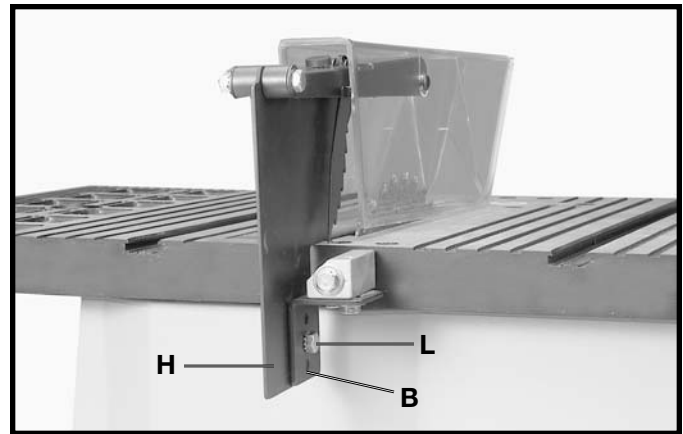

Fig. 11
8. Assemble splitter (H) Fig. 11, to splitter support bracket (B) as shown using 3/4 inch-long hex head screw, external tooth washer, and flat washer (L).